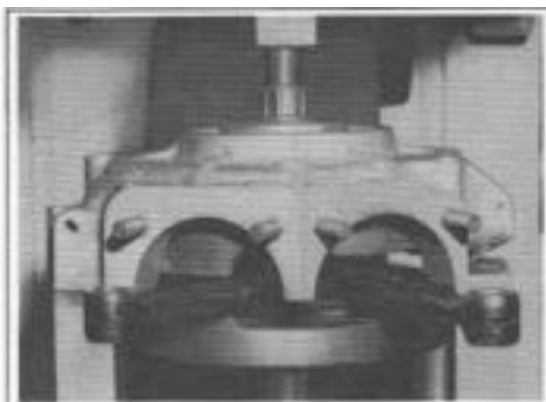

Figure 3-33. Pressing Flywheels Out of Crankcase.
6. Mount flywheel and left case assembly on press table supporting case on parallel bars (Figure 3-33) and press on end of sprocket shaft with arbor press until flywheel assembly (8) drops out. Remove seal (7), freeing sprocket side bearing half (9), spacer (6) and spacer (10).